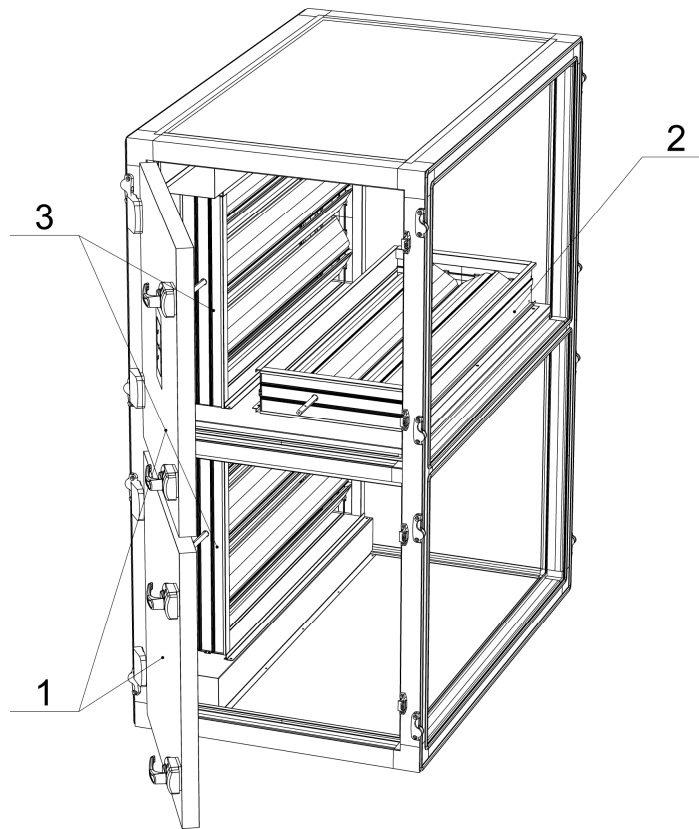

Figure 6.7.3 - Two stage mixing section with three dampers inside.
3. Two stage mixing section with three dampers inside (double deck (Figure 6.7.3) or side by side).